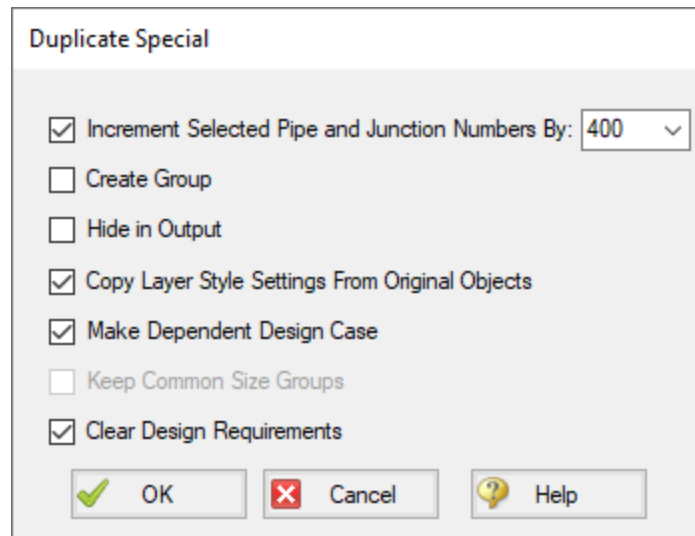

Figure 8: Duplicate Special settings to create a dependent design case
4. Go to the Edit menu again and select **Duplicate Special**, enter an increment of **400** and click the boxes next to **Make Dependent Design Case** and **Clear Design Requirements** (Figure 8). Click **OK**.